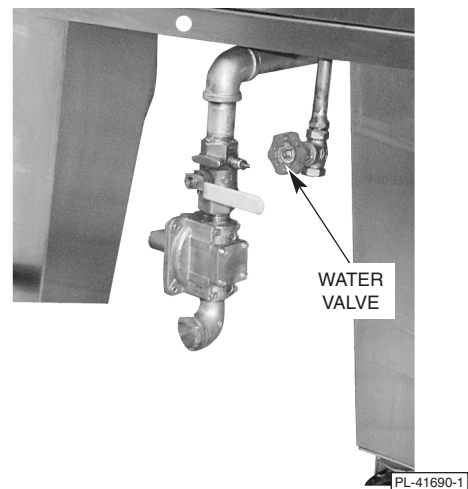

Fig. 33
- For systems plumbed to water line, turn water valve knob on until grease is removed from the drip pan, then turn water valve knob off (Fig. 33).